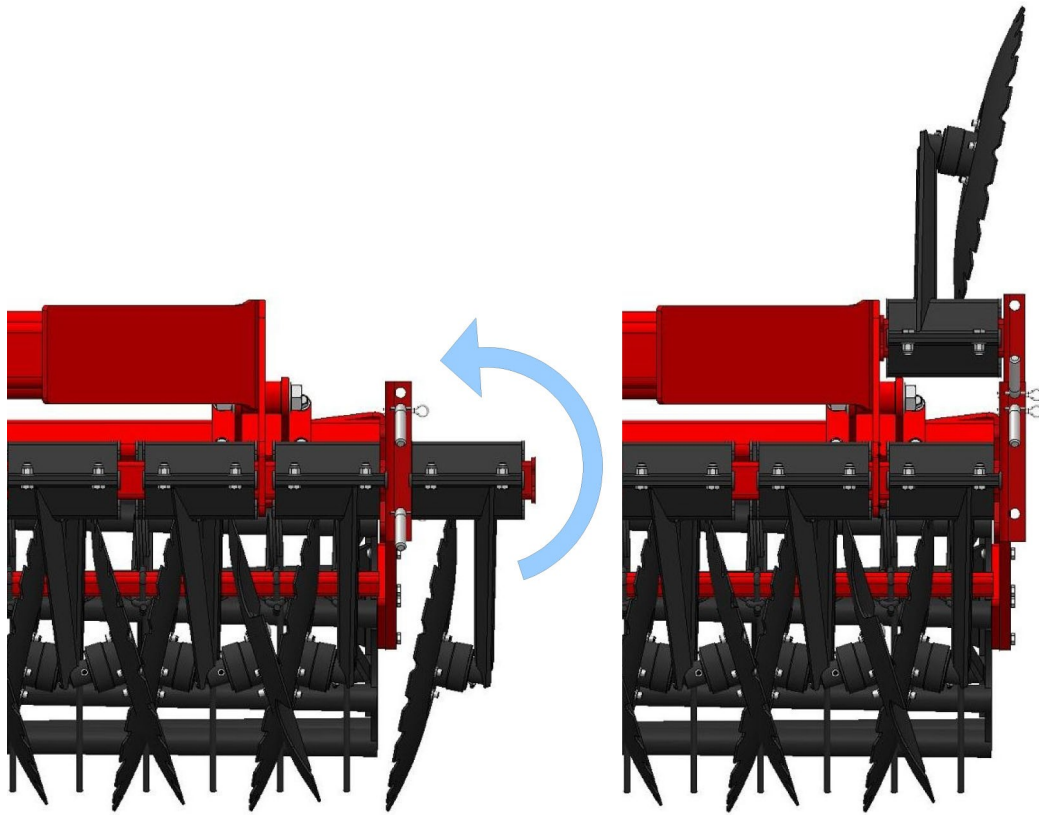

Fig. 1 Working and travelling positions of the machine (side sections folded).
- the side sections of the machine must be folded to the transport position and secured with bolts against unfolding during transport (see. fig. 1).